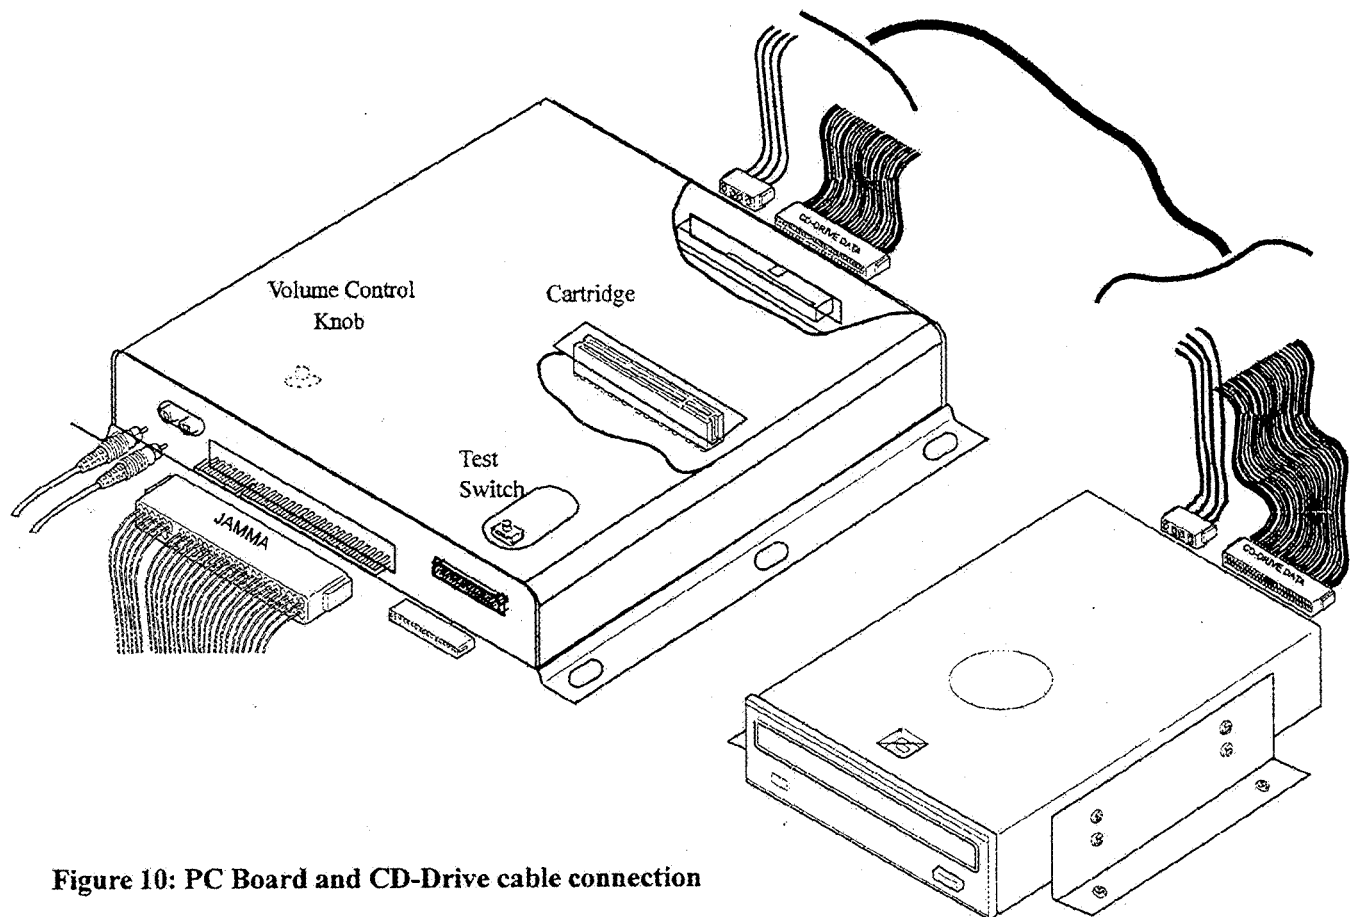

Figure 10: PC Board and CD-Drive cable connection
31. Attach Power and Data Cable to CD-Drive. Connect other end to SCSI combination connector on the main PCB (Figure 10).
32. Connect the JAMMA harness connector to the edge connector on the PC Board (Figure 10).
33. Attach the auxiliary cable connector to the PC Board. (Figure 10).
34. If you elect to use Q Sound Audio Amplifier, connect audio cable to audio output on the PC Board. (Figure 10).
34. After the CD-ROM is installed, the game is playable. Adjust the speaker volume by turning the volume control knob clockwise to increase volume, or counterclockwise to decrease volume (see Figure 10)